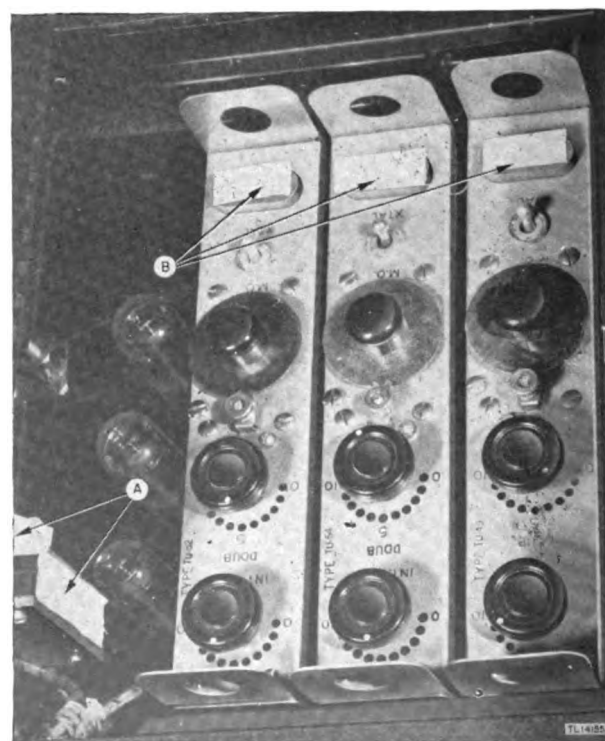

Figure 36. Radio Transmitter BC-610-E—top interior view of exciter stages, showing method of masking.
(21) Interlock switch, item A, figure 36.
(22) Tuning unit crystal sockets, item B, figure 36.
d. DRYING. (1) Place the transmitter in a baking oven, and bake approximately 2 to 3 hours at 160° F.